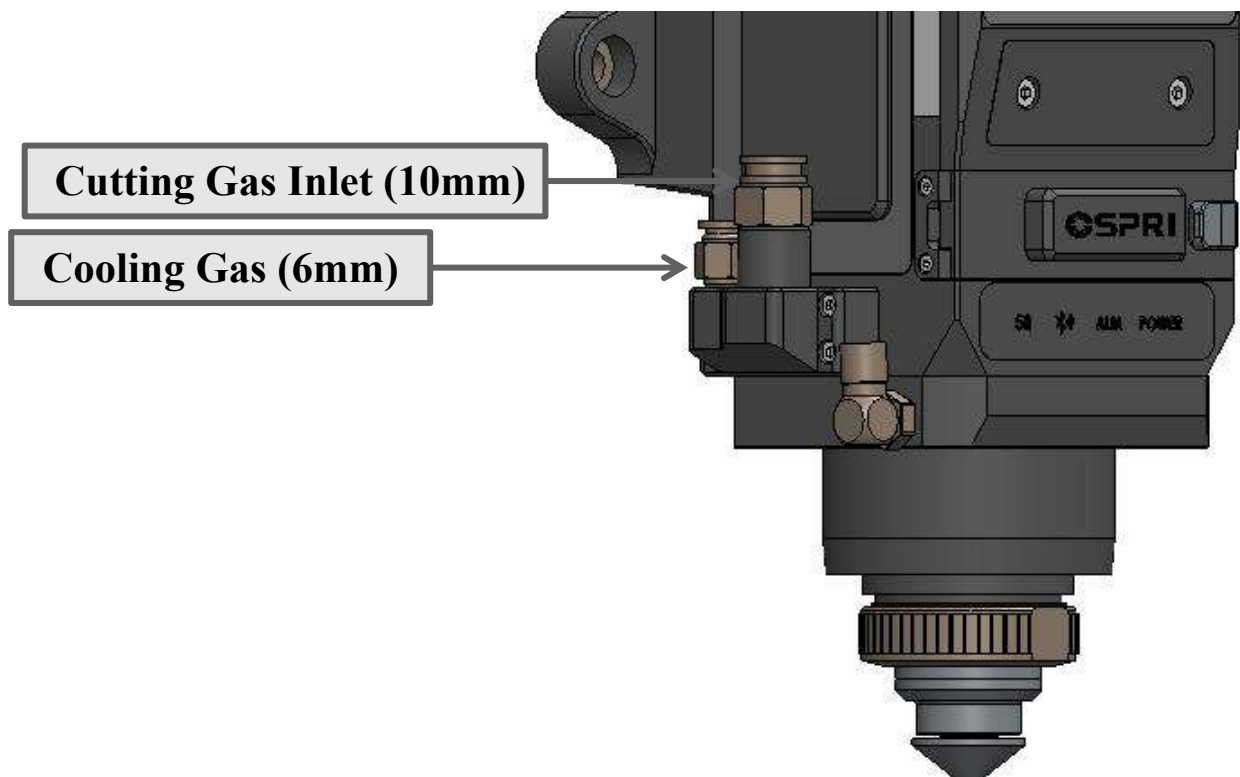

Figure 1.4
- ① The inlet is connected to 10mm gas hose, as shown in the Figure 1.4, and is used to connect cutting gas, with inlet pressure  $<3.0$  Mpa.
- ② The inlet is connected to a 6mm gas pipe, as shown in Figure 1.4, and is used to connect cooling gas, input pressure  $<0.6$  Mpa.